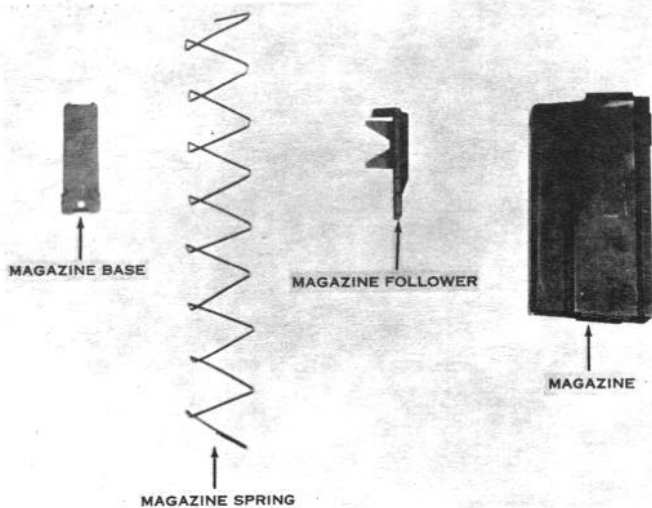

Figure 23. Parts of the magazine.
b. Remove and separate the magazine spring and follower. Figure 23 shows the parts of the magazine.